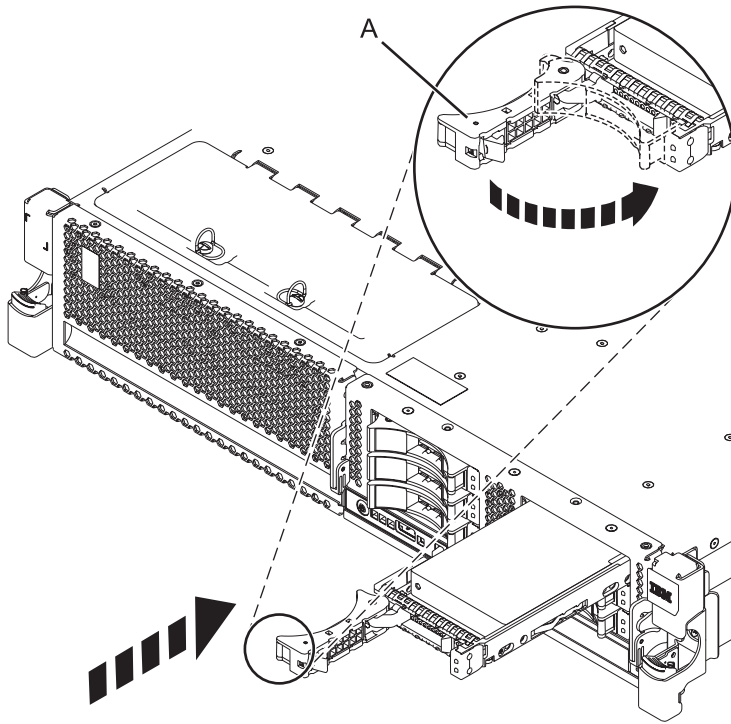

Figure 2. Installing the disk drive in the system
6. When the identify LED flashes, slide the drive all the way into the system or an expansion unit, and push the drive handle (A) in until it locks, as shown in Figure 2.